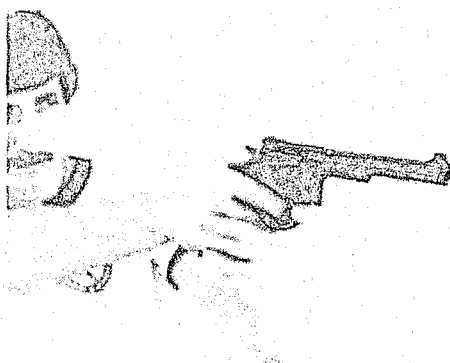

Figure 7-14
5. Use of Speed Loaders (See Figures 7-14 through 7-20)